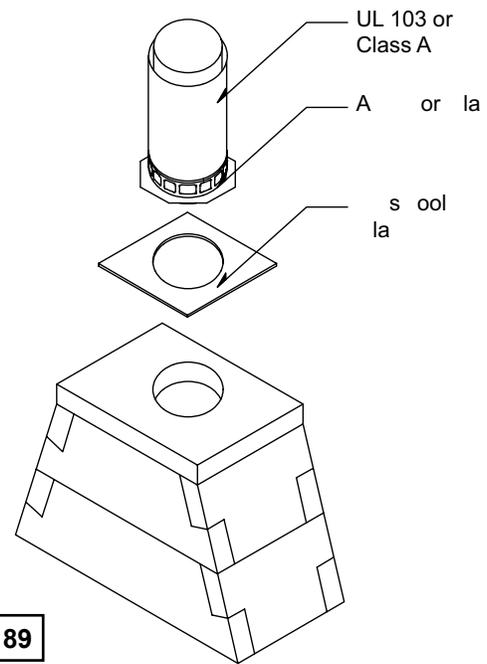
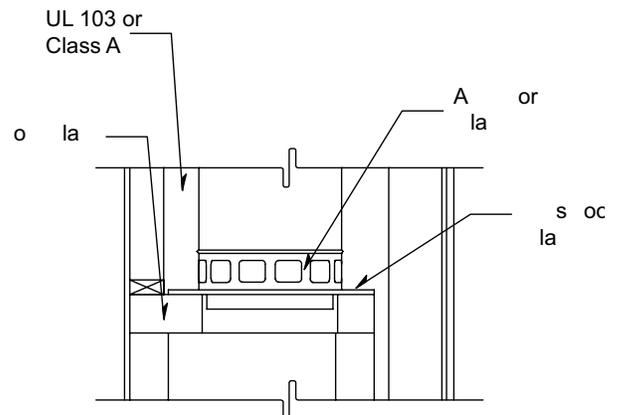

FIGURE 89
FIGURE 90
The FTF-13 metal flue attaches to the smoke dome's top plate by use of the AP-ISO masonry anchor plate. The Anchor Plate is fitted with an octagonal base plate to affix it to the smoke dome's top plate. The anchor plate also has starter rings for both the inner and the outer sleeves of the metal flue (Figure 89).
Step 1. Lay a twenty-four inch (24") square, half inch (1/2") thick (minimum) piece of ceramic fiber high temperature blanket ("Inswool" Ceramic Fiber HP Blanket, rated for temperatures up to 2400 degrees F., or equal.) on the top of the top plate. Cut a hole approximately 11" in diameter in the center of the high temperature blanket and align the blanket on the flue hole in the top plate (Figure 89).
Step 2. Fit the AP-ISO Anchor Plate assembly onto the Inswool so that the inner flue sleeve projecting out the bottom of the anchor plate is inserted through the high temperature blanket and into the hole in the top plate. The high temperature blanket is held between the anchor plate and the top plate as a gasket (Figure 89). Attach Anchor Plate to the top plate with masonry attachment screws through holes provided in the anchor plate into the top plate. Do not over torque masonry screws into the Isokern material. (Figure 90)